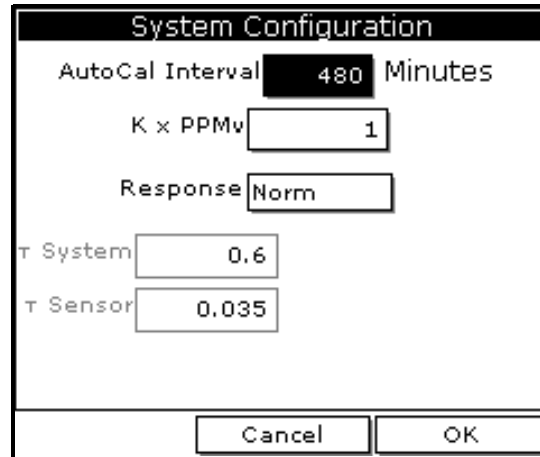

Figure 29: System Configuration Window
3. Use the arrow key to scroll to System and press **[ENTER]**. A screen similar to Figure 29 on page 34 appears.